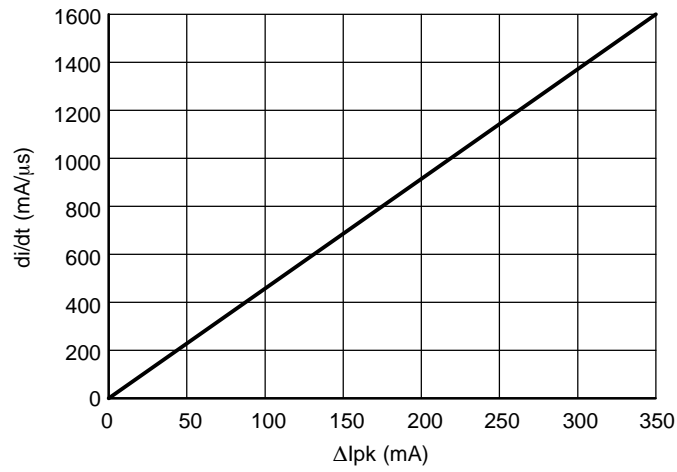

Figure 16. Power Switch Circuit di/dt vs. Δlpk
9. Actual peak switch current is increased due to the propagation delay time and the di/dt (see Figure 16).
The current limit propagation delay time is typically 220 ns. This time is measured from when an overcurrent appears at the Power Switch Circuit drain, to the beginning of turn-off. Care must be taken during transformer saturation so that the maximum device current limit rating is not exceeded. To determine the peak Power Switch Circuit current at turn off, the effect of the propagation delay must be taken into account. To do this, use the appropriate Current Limit Threshold value from the electrical tables, and then add the ΔI_{pk} based on the di/dt from Figure 16. The di/dt of the circuit can be calculated by the following formula: